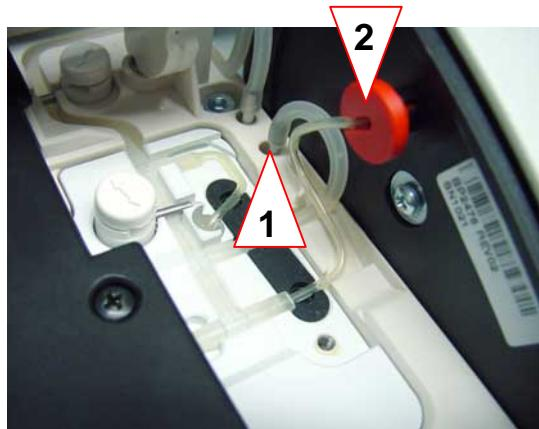

Fig. 3-20 Tube connection and Barex tube connection
7. Open the tube connection and the Barex tube connection (see Fig. 3-20, 1 and 2).